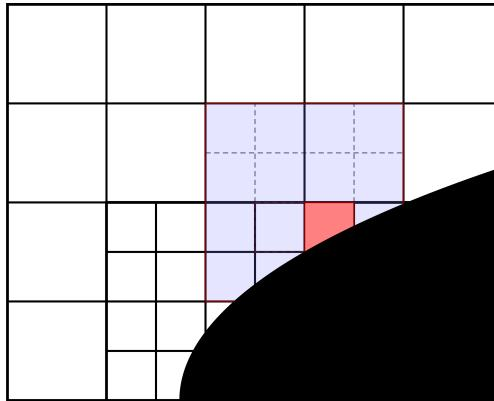

Fig. 3.6.3: Example of the region of a second order stencil for the Laplacian operator with second order gradient reconstruction on the embedded boundary.
Note that the gradient reconstruction can end up requiring more than one ghost cell layer near the embedded boundaries. For example, Fig. 3.6.3 shows a typical stencil region which is built when using second order gradient reconstruction on the EB. In this case the gradient reconstruction requires a stencil with a radius of 2, but as the cut-cell lies on the
1. Cut-cell stencils may have a large radius (see Fig. 3.6.3) and thus require more ghost cell layers.
Figure Fig. 3.6.5 shows a typical interpolation stencil for the stencil in Fig. 3.6.3. Here, the open circle indicates the ghost cell to be interpolated, and we interpolate the solution in this cell using neighboring grid cells (closed circles). For this particular case there are 10 nearby grid cells available, which is sufficient for second order interpolation (which requires at least 6 cells in 2D).